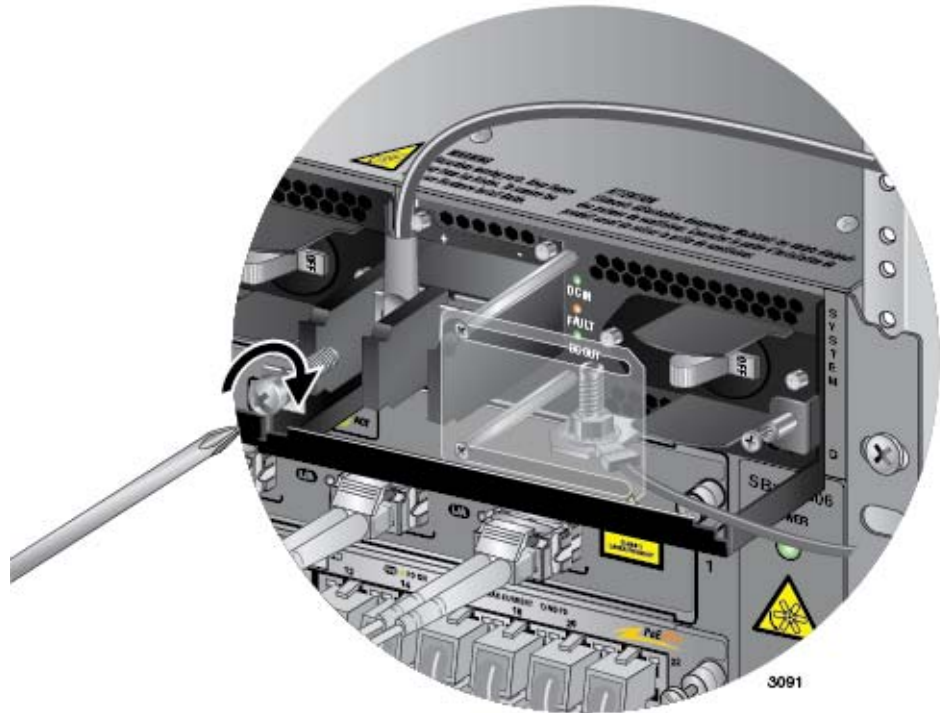

Figure 127. Connecting the Positive (+) Power Wire with a Straight Terminal
6. With a #3 Phillips-head screwdriver, connect the positive (+) power lead wire to the positive terminal on the power supply, with one of the terminal screws removed in the previous step. The positive terminal is on the left. You may attach the terminals with the wires either above or below the terminal block. Figure 127 shows the positive wire above the terminal block.